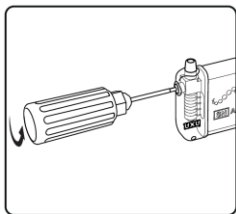

Figure 4: Use the Torque Wrench to Turn the Setscrew Counterclockwise to **Back up** the Neurostimulator Setscrew and Allow for Insertion of the Lead.
3. Use the torque wrench to turn the setscrew counterclockwise to back up the setscrew. Do not remove the setscrew from the connector block (**Figure 4**).